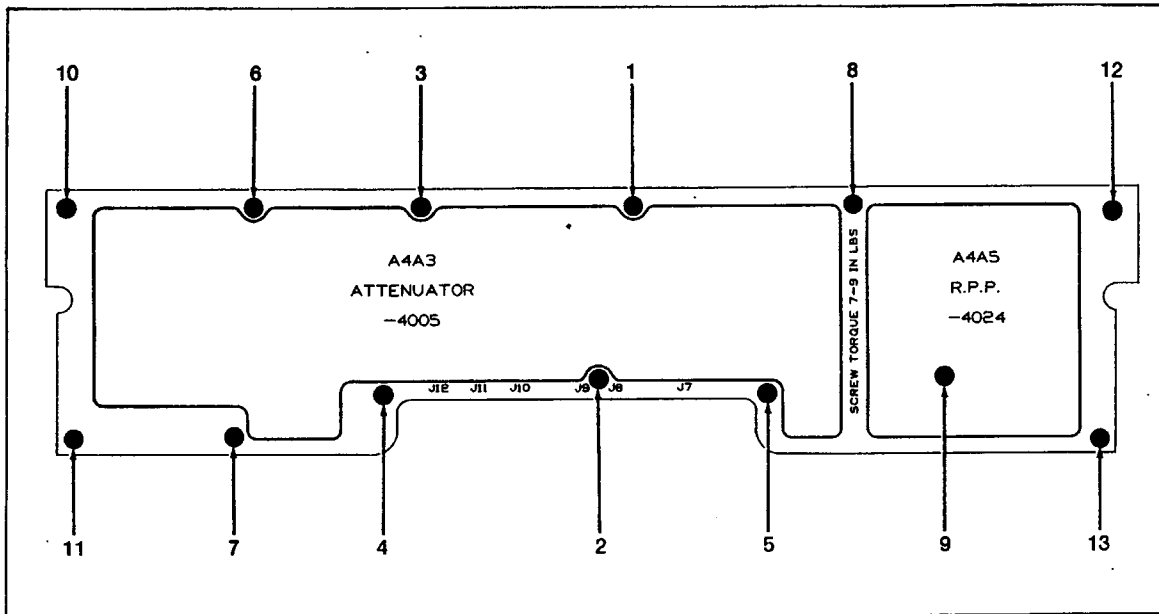

Figure 3-13. Torque Sequence, A4A3, A4A5, Top of Output Module
d. Swing the module out 90 degrees and lock it in this position by installing the two screws (H3) in position B (Figure 3-9). Remove the A4A3 and A4A5 cover screws (Figure 3-13).
- a. Torque all screws to 3 inch-pounds in the numerical sequence shown in Figure 3-13.
- b. Torque all screws 7 to 9 inch-pounds in the numerical sequence shown in Figure 3-13. The torque value should be the same for all screws.